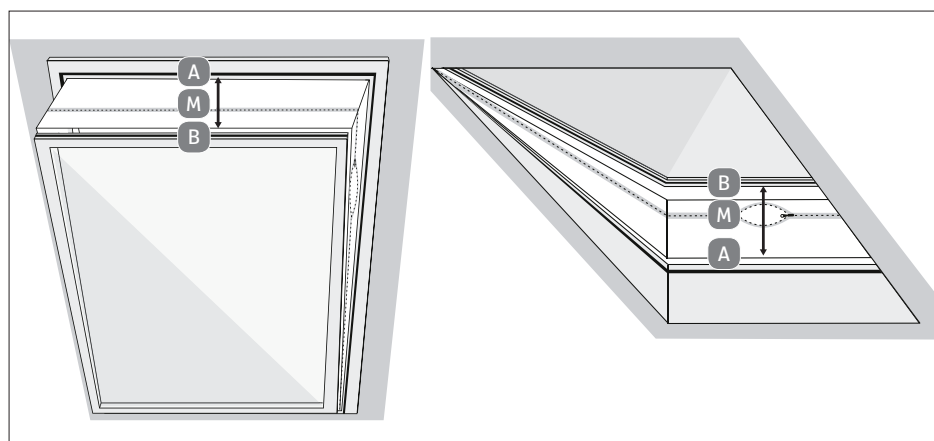

Fig. 14 – Mounting on roof window
- ▶ Loosen the wing nut until there is enough space between part A of the window kit and the slider. (See Fig. 14 Step I).
- ▶ Insert the two parts of the window kit A & B into each other so that the slider engages in the groove of part B of the window kit. Adjust the window kit to the desired size by pushing the window kit together or pulling it apart and tighten the wing nut again. (See Fig. 14 Step II).